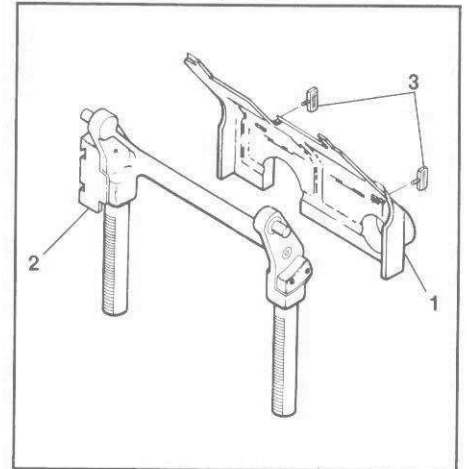

Figure 17. Mount the shield underneath the worktable.
6. Mount the tie bar shield. (See Figure 17.) Attach the tie bar shield (1) to the table tie bar (2) by slipping it over two thumbscrews (3), then turning the thumbscrews tight.